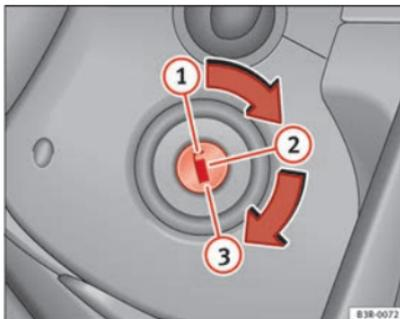

Fig. 136 Ignition key positions
- Turn the ignition key to position  ⇒ Fig. 136. ▶